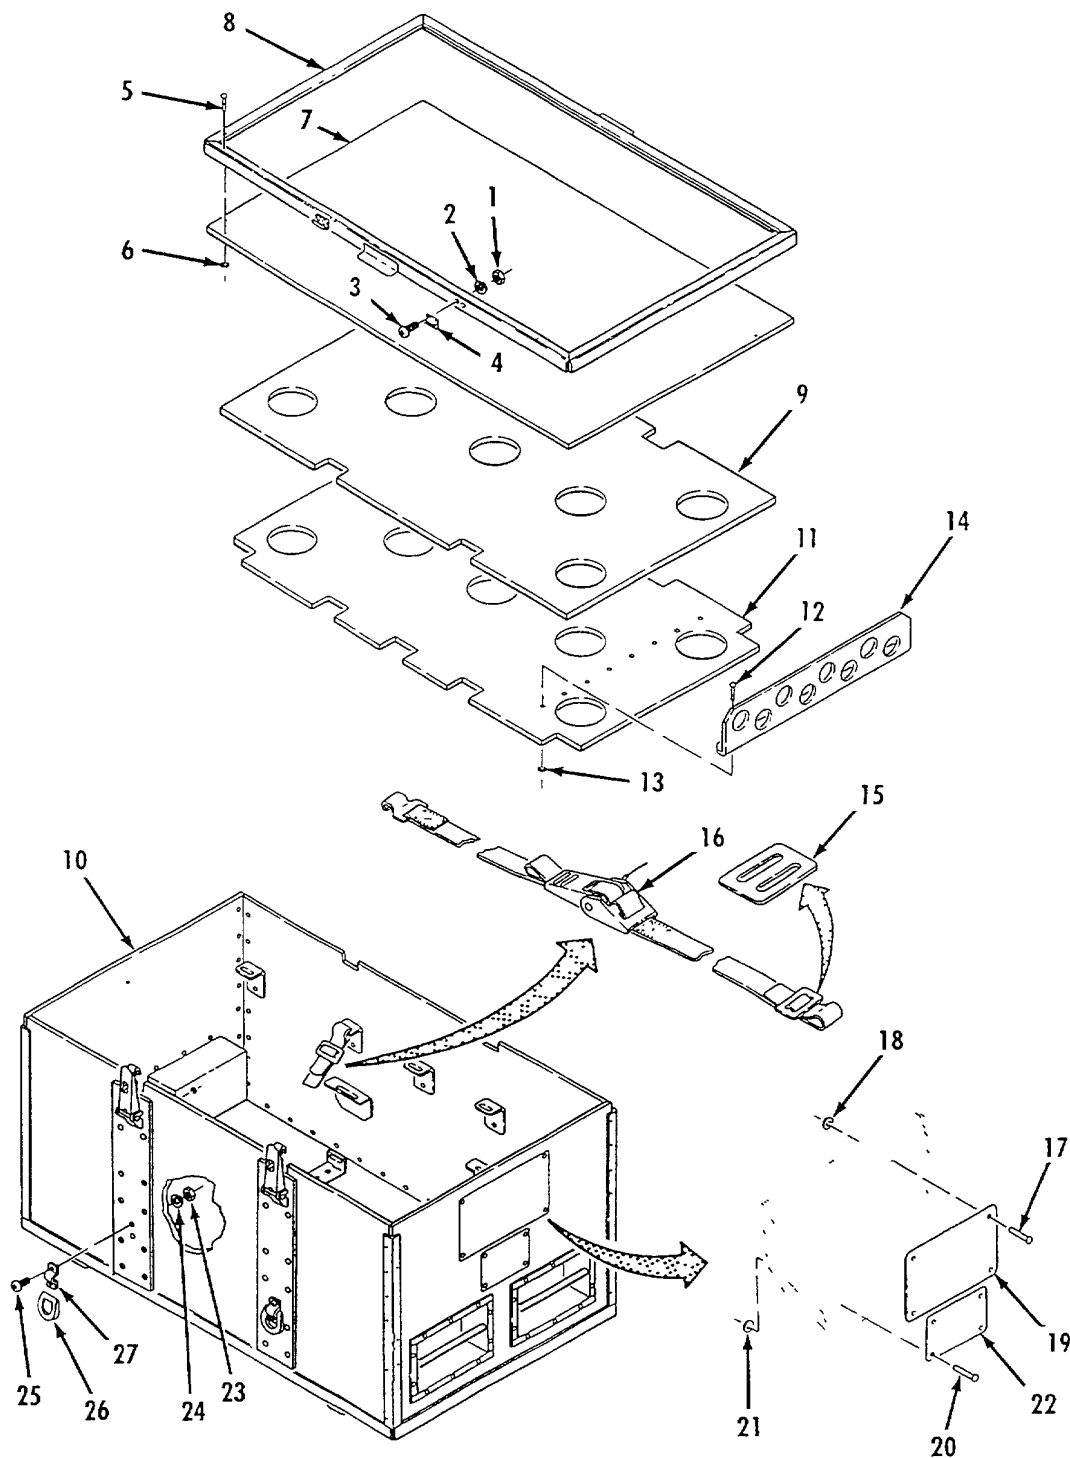

Figure 4-27. Storage Box (Cover and Shelves) Repair.
- a. Disassembly. Refer to figure 4-27.
Refer to figure 4-27.